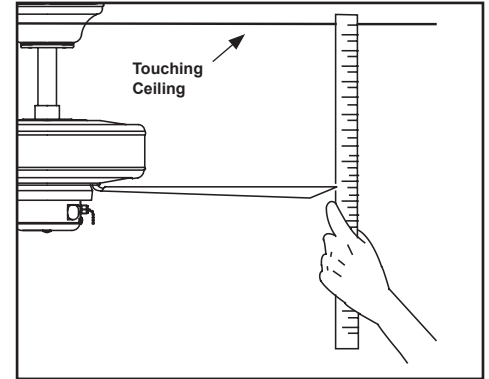

Figure 24
2. Most fan wobble problems are caused when blade levels are unequal. Check this level by selecting a point on the ceiling above the tip of one of the blades. Measure from a point on the tip of each blade to a point directly above the blade on the ceiling. Measure this distance as shown in Figure 24. Rotate the fan until the next blade is positioned for measurement. Repeat for each blade. Measurements deviation should be within 1/8". Run the fan for 10 Minutes.